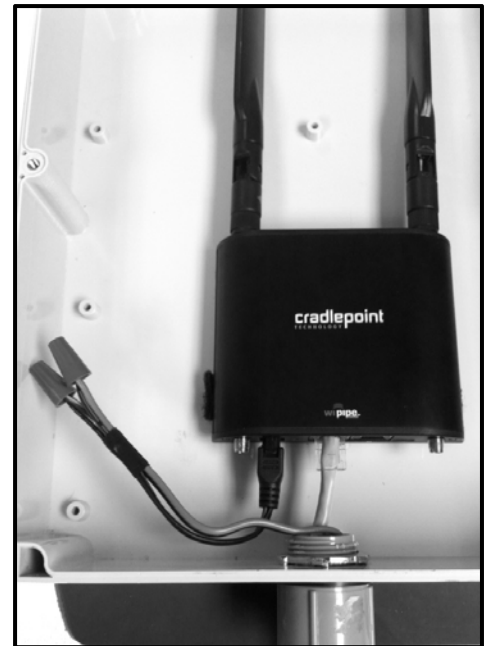
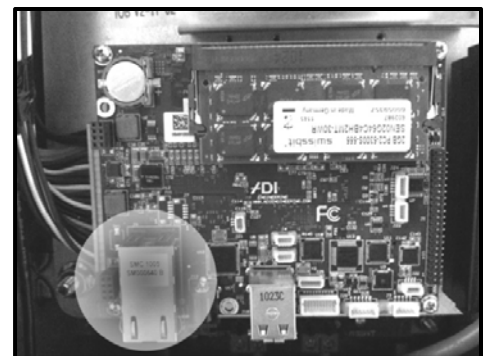

Figure 6
Figure 7
- 11. Using (2) 18 gauge wire nuts, connect the red 18 gauge wire to the red wire on the router power connector and do the same for the black wires as shown in *Figure 6*.
- 15. Remove the rear cover of the PEP Station by unscrewing the (4) T-25 Torx tamperproof screws on the back side of the station and disconnecting the rear cover ground wire on the inside.
- 16. Install an RJ45 connector on the end of the CAT5 Ethernet wire(s) at the PEP Station(s) and plug into the data port on the single board computer(s) as shown in *Figure 7*.